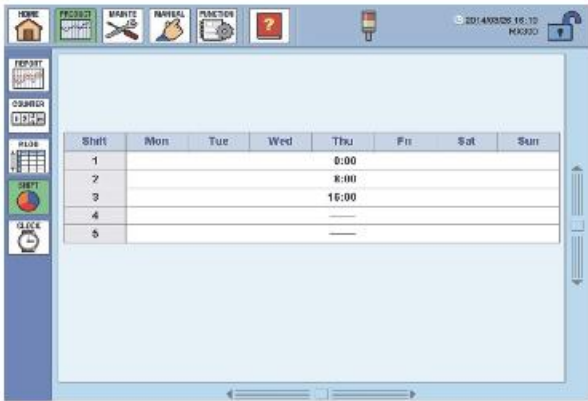
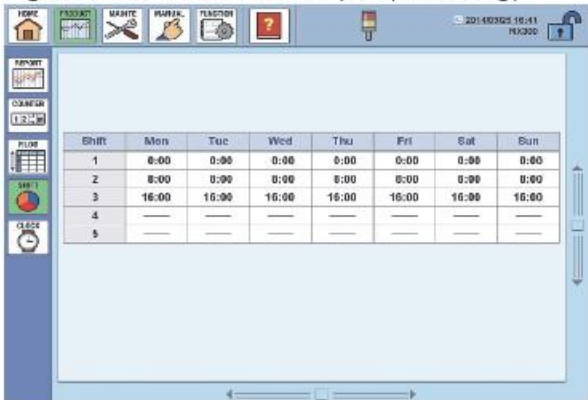

Fig. 9
Fig. 10
- (1) Set the key switch to the DATA-SET position,
- (2) Touch the frame (white portion) indicating the time on the shift schedule screen (Fig. 9 or Fig. 10) to display the setting screen.
- (1) Set the key switch to the DATA-SET position.
- (2) Touch the frame (white portion) indicating the time on the shift schedule screen (Fig. 9 or 10) to display the setting screen.